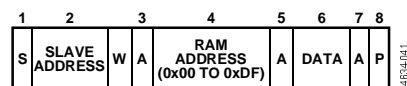

Figure 31. Single Byte Write to RAM
- To write a single byte of data to RAM. In this case, the command byte is the RAM address from 0x00 to 0xDF and the only data byte is the actual data, as shown in Figure 31.